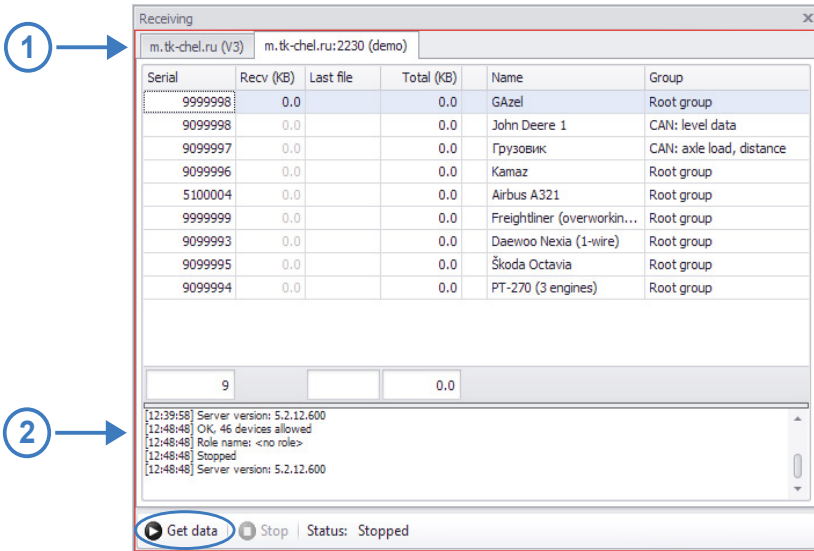

Fig. 55. Online device provider.
The online data is received using the Online Device Provider module (**Fig. 55**).
The progress of data loading from each server and network storages to the AutoGRAPH 5 PRO is displayed on individual panels or tabs (**Fig. 55, item 1**): information about the total amount of received data, the last file reception date and the amount of data received over the latest time span. Double-clicking on the row of the loaded data list places the Device selector cursor over the caption of the respective vehicle for viewing online data.
The total row (at the bottom of the table) displays the total amount of loaded data and the quantity of polled controllers. The data loading log is displayed in the state progress window (**Fig. 55, item 2**).
The selected vehicle or group data loading progress will be displayed in the Online device provider state window (**Fig. 55, item 2**).